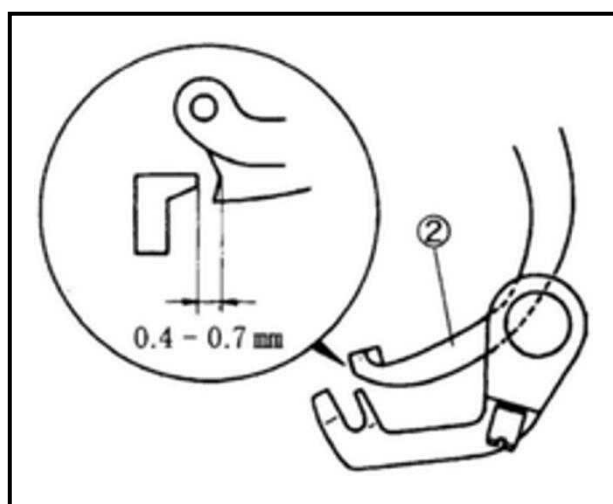

Fig.50
当大喂针②和小喂针①最接近时的间隙为 0.4-0.7mm。(Fig.50)
When the top cover thread hook② comes most nearly to the top cover thread carrier③, make the clearance between them to 0.4-0.7 mm during one rotation. (Fig.50)